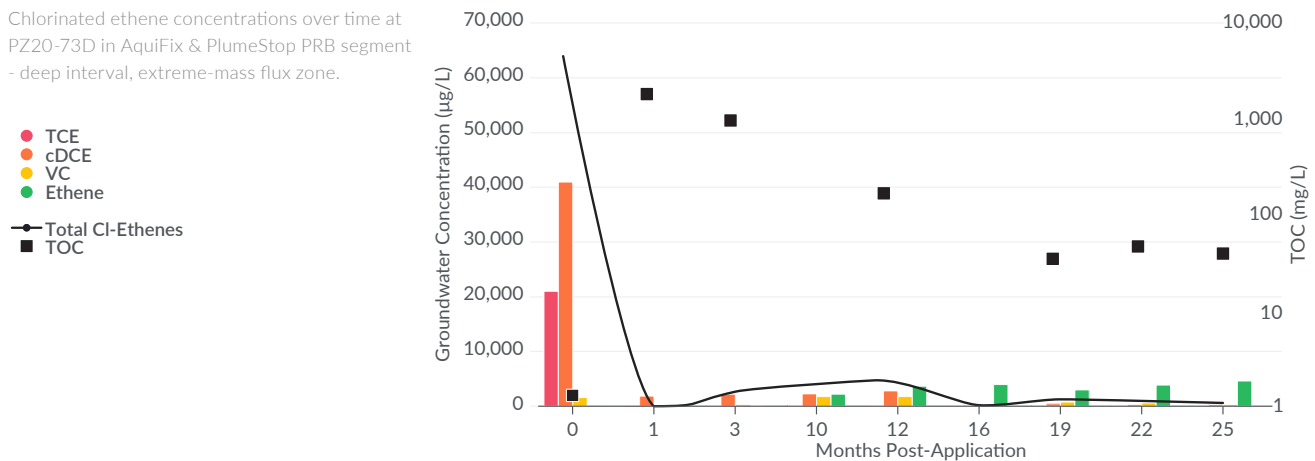

Figure 4
- High ethene concentrations, averaging almost 4,000 micrograms per liter (µg/L), were sustained during the second year of post-injection monitoring. After two years, ethene concentrations are seven times higher than the sum of CVOCs, indicating almost complete mineralization of these contaminants Figure 4.